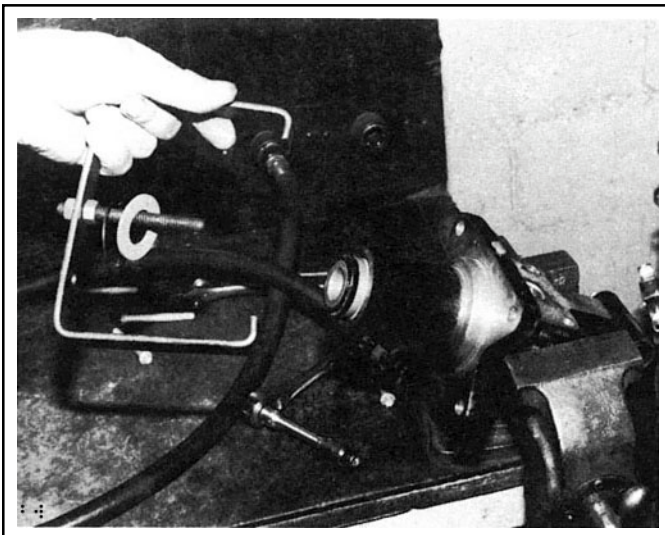
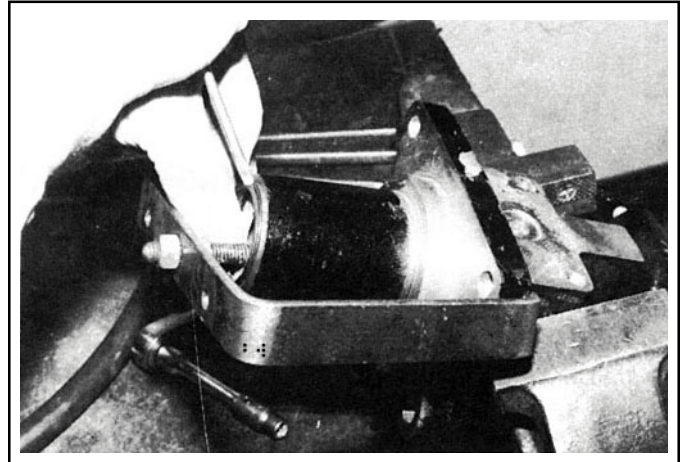

FIGURE 7
FIGURE 8
6. Place the stop washer (7) and retaining ring (8) over the center post of the retaining tool, depress the piston (1) (see Fig. 7). Make certain the retaining ring is properly seated in its corresponding groove in the master cylinder casting (see Fig. 8). **CAUTION - Keep retaining tool in place until step 8 is completed!!**